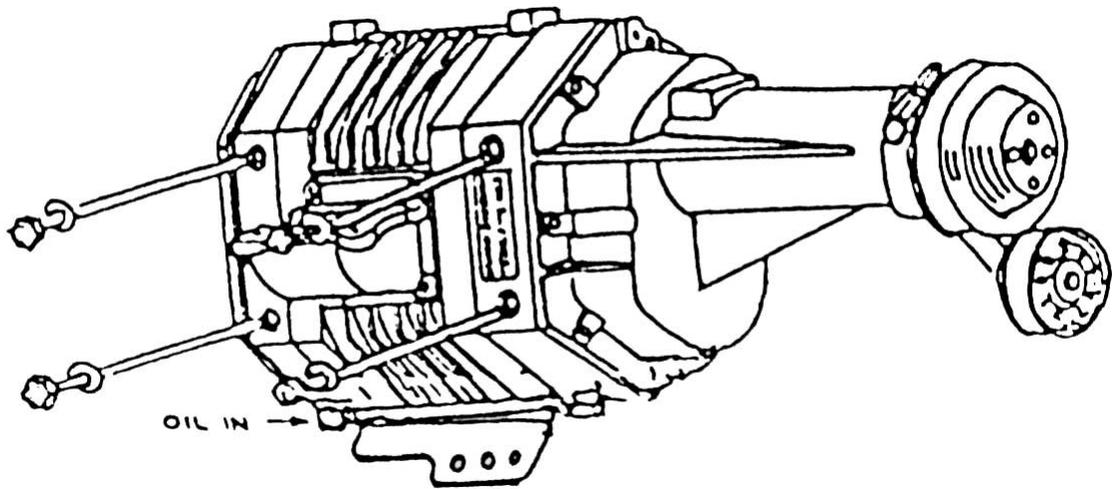

Figure 3
16. Remove the protective tape from the bottom port of the supercharger. Make certain the gasket surface is clean. Install four 3/8-16x5 1/2 bolts and flat washers into the counter bored holes at the front and rear of the supercharger. Apply thread sealant to the threads of the top front bolt. Carefully position the supercharger on the manifold making certain the bolts line up with the tapped holes in the manifold. Gradually tighten the supercharger mounting bolts to a final torque of 18 ft-lbs. Check for smooth turning of the supercharger pulley. Any binding may indicate the manifold surface has warped or that foreign material has become lodged between the supercharger and the manifold, *Figure 3*.